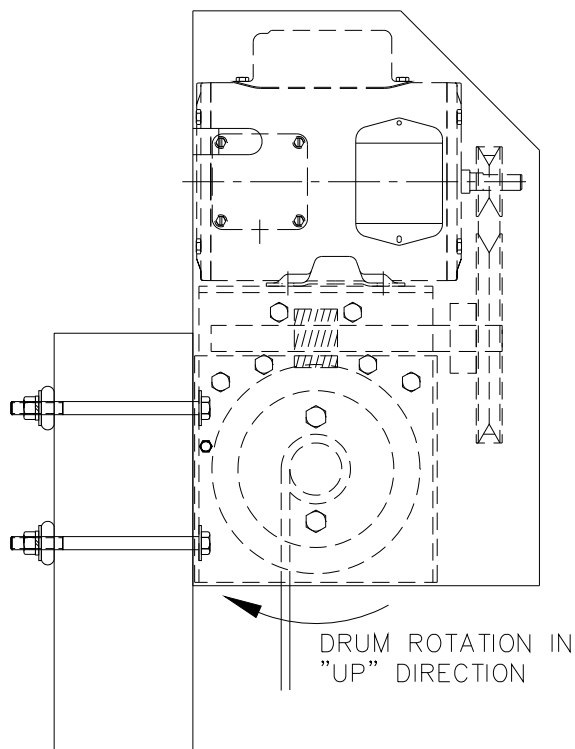

Figure 2-5.
3. Refer to figure 2-5. When wrapping the drum, do not allow any horizontal gaps in the cable winding. See figure 3-5 for winch drum rotation in the “UP” direction.